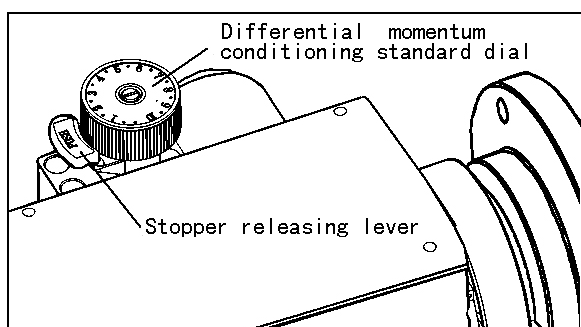
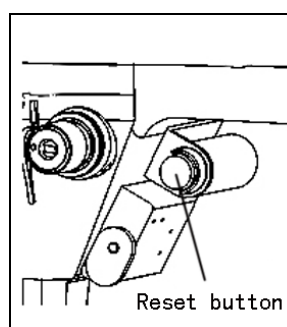

Fig. 37
Fig. 38
### 31、 Adjustment of top Differential regulation of devices (Fig. 37、 38)
1) If adjusting the differential momentum, you should first press the differential reset button (Figure 38) ,on differential device in a state of non-shrink joints, and then press as shown in Figure 37
### 32、 Ruffling sewing reset (Fig. 38)